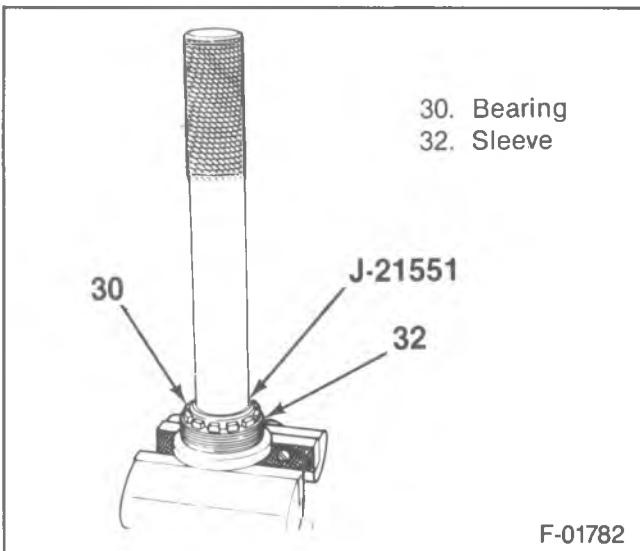

Figure 73—Removing the Bearing From the Sleeve
19. Bearing (30) from the sleeve (32) (figure 73).